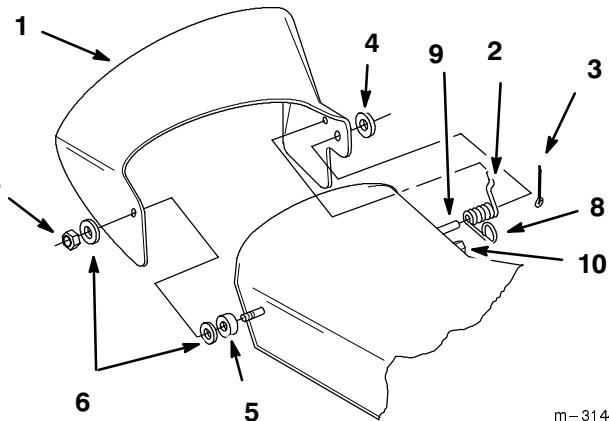

Figure 33
1. Locate the items shown (Fig. 33).
3. Position the spring and discharge chute over the post on the rear of the deck and secure them with a 1/2" (13 mm) washer and a 3/4" (19 mm) cotter pin (Fig. 33).
6. Place the discharge chute over the stud and secure it with a second nylon washer and 3/8" jam nut (Fig. 33). The jam nut must be tightened flush with the end of the stud.